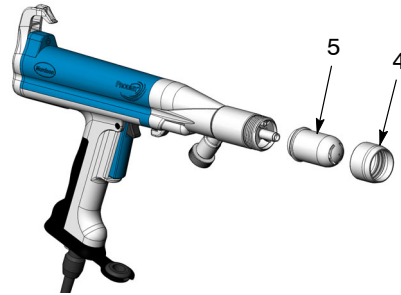

Figure 9 Installing the Nozzle
6. See Figure 9. Install the nozzle (4) and retaining nut (5) on the spray gun.